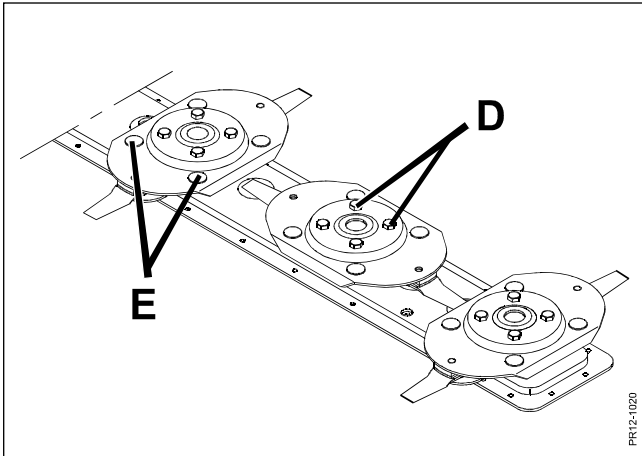

Fig. 5-25
**Fig. 5-25** Make sure that the 4 bolts **D** which are used to fasten the disc to the hub of the cutter bar have been tightened to **120 Nm** (12 Kpm), and the bolts **E** which hold the blade holders are tightened to **80 Nm** (8 Kpm).